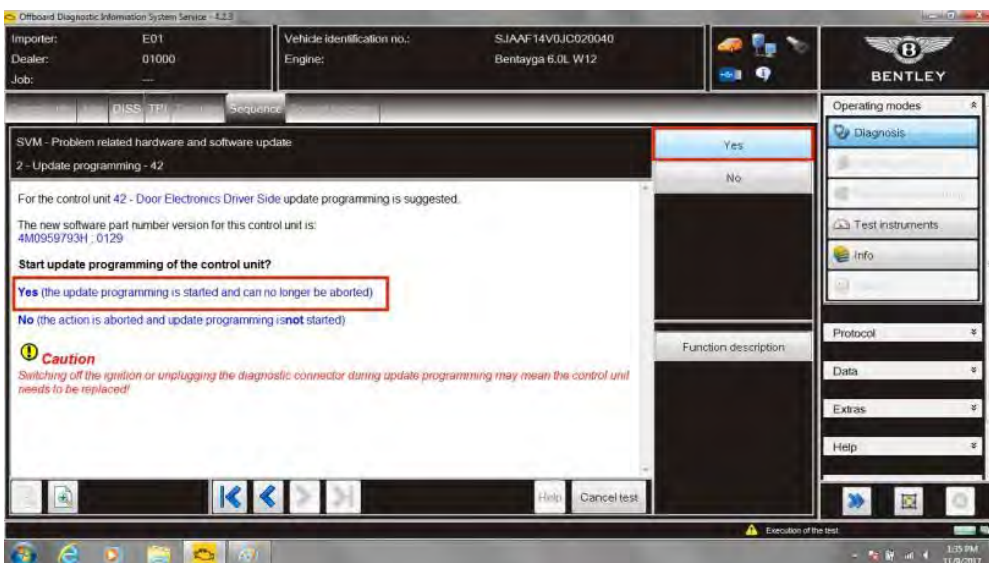

Figure 4
10. As each control unit is presented select Yes to deliver software. Follow screen prompts for each control unit (see Figure 4)